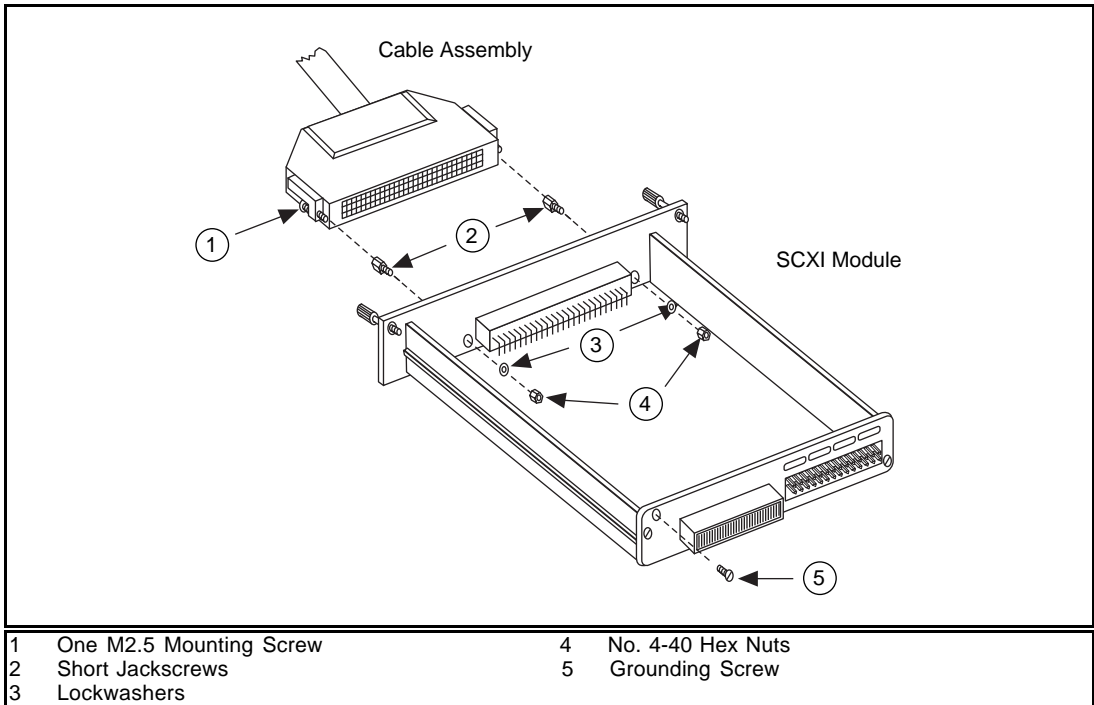

Figure 2. SCXI Installation
To connect the cable assembly to your SCXI module, refer to Figure 2 and to your module documentation as you perform the following steps.
5. Insert one short jackscrew (included in your cable assembly kit) through the SCXI front panel, as shown in Figure 2.
11. Plug the DIN C cable assembly to your SCXI module front connector and secure the backshell by tightening both M2.5 mounting screws as shown in Figure 2.